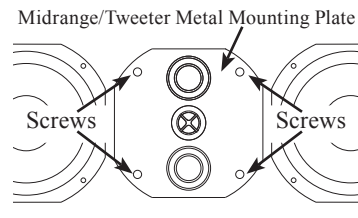

Figure 6B
B. Temporarily remove the four screws securing the Midrange/Tweeter Metal Mounting Plate. Refer to figure 6B.